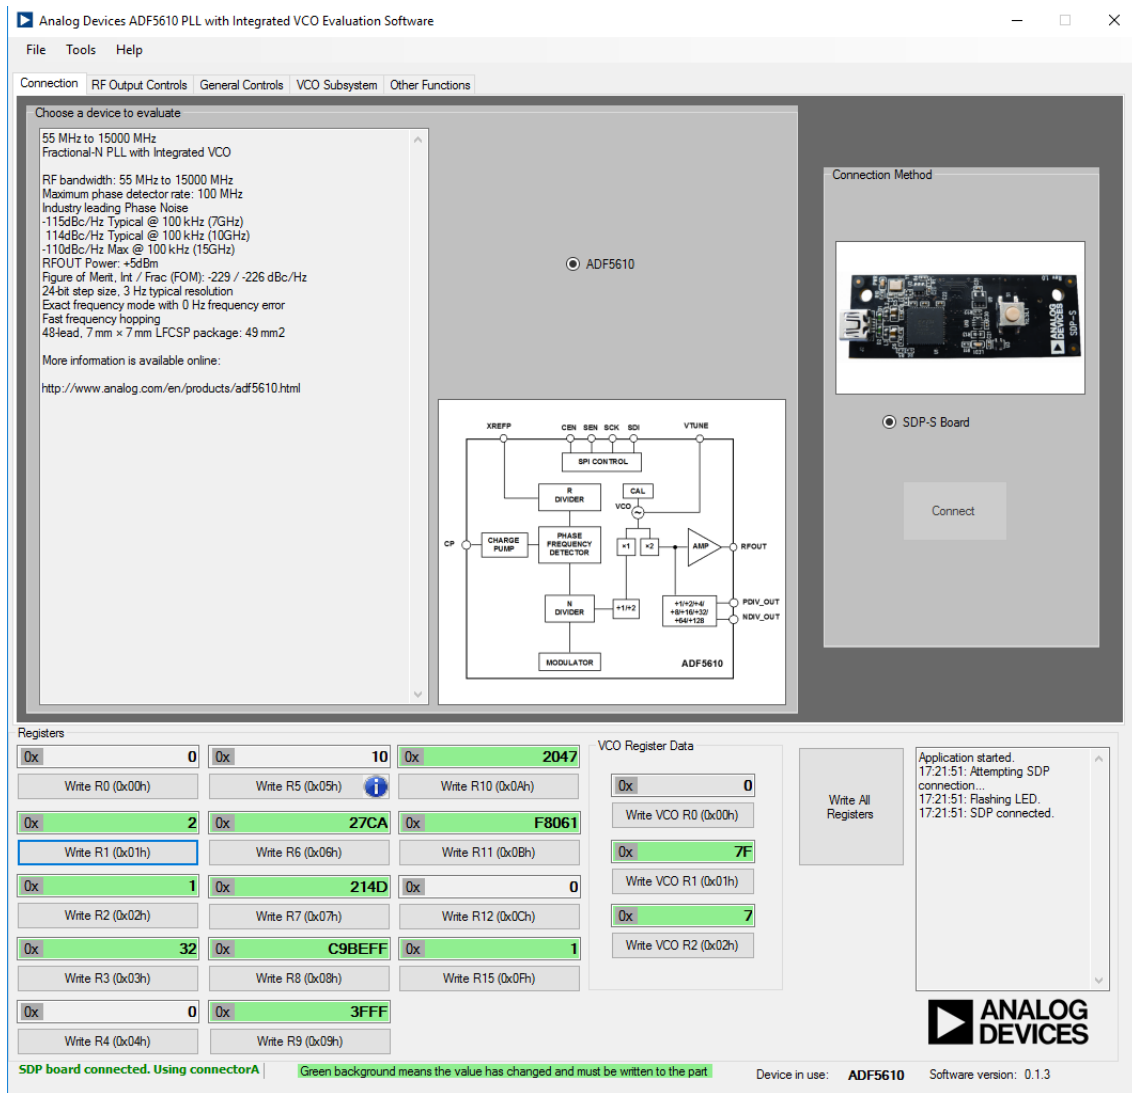

Figure 2. Software Front Panel Display, Connection Tab
2. In the **Connection** tab, select **ADF5610** and **SDP-S Board**. Click **Connect** (see Figure 2).
7. Select ADF5610 and SDP-S board in the **Connection** tab and click **Connect** (see Figure 2).